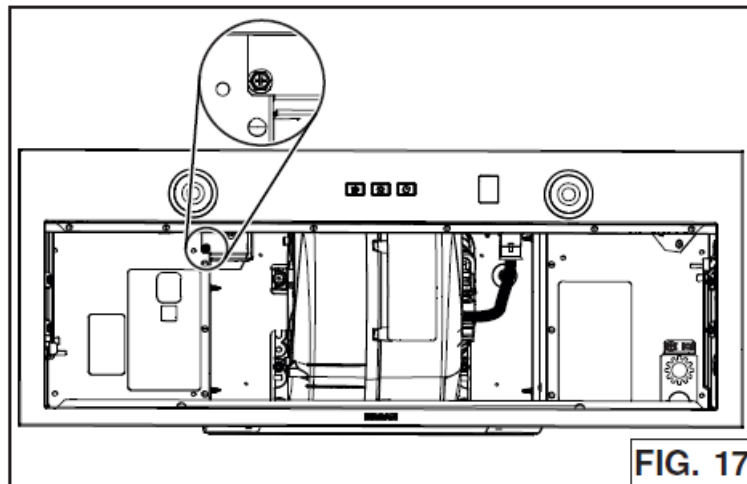

FIG. 17
5. Remove and set aside the screw (circled in FIG. 17) on the top, inside of the unit.